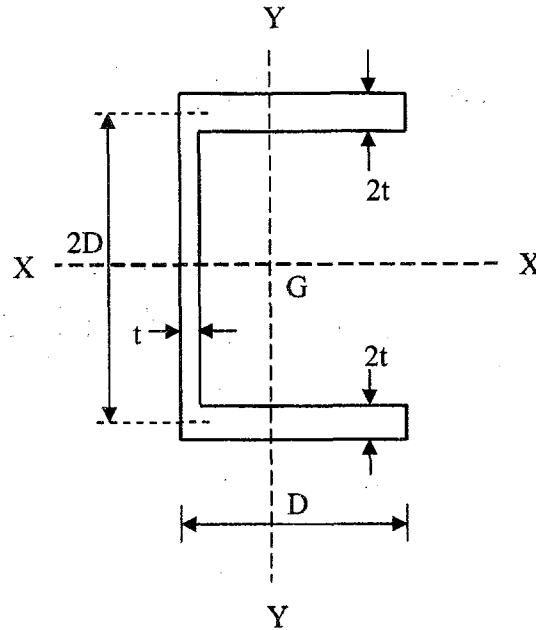

Figure 8(a)
6. [a] Show that the plastic section modulus about x-x for the section shown in Figure 8(a) is given by $Z_p = 5tD^2$. Ignore the higher order of t . (5 marks)
6. [b] A beam spanning 4 m as shown in Figure 8(b) is fixed at both ends. If the uniformly distributed load applied on span AB is 20 kN/m, the load factor, $\lambda_p = 1.7$ and $\sigma_y = 250 \text{ N/mm}^2$: